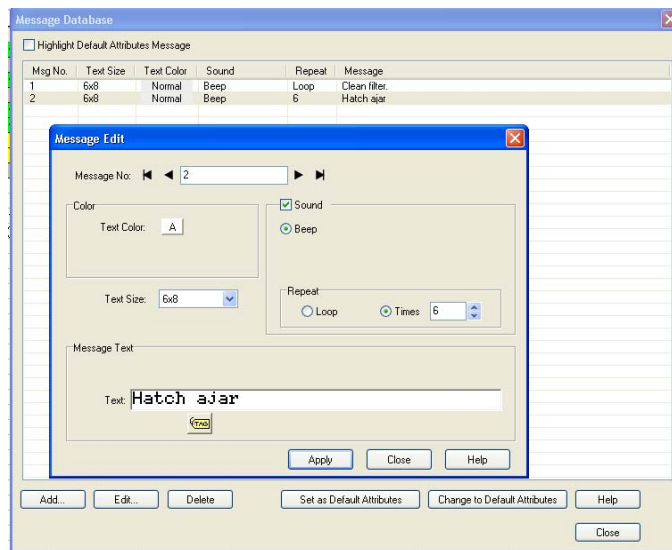

Figure 7
- a Message (Lookup Text object) (Figure 7) or